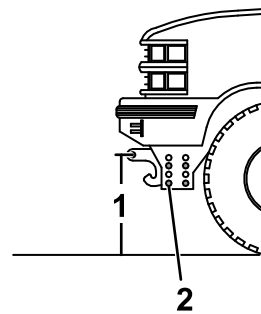

Figure 30
1. Measure the distance from the ground to the coupler spring-pin holes on the undercarriage pushbeam (Figure 30). The measurement should match the height listed for your plow in Specifications (page 20).
2. If the pushbeam is not at the correct height, remove the fasteners securing the pushbeam to the undercarriage (Figure 30).